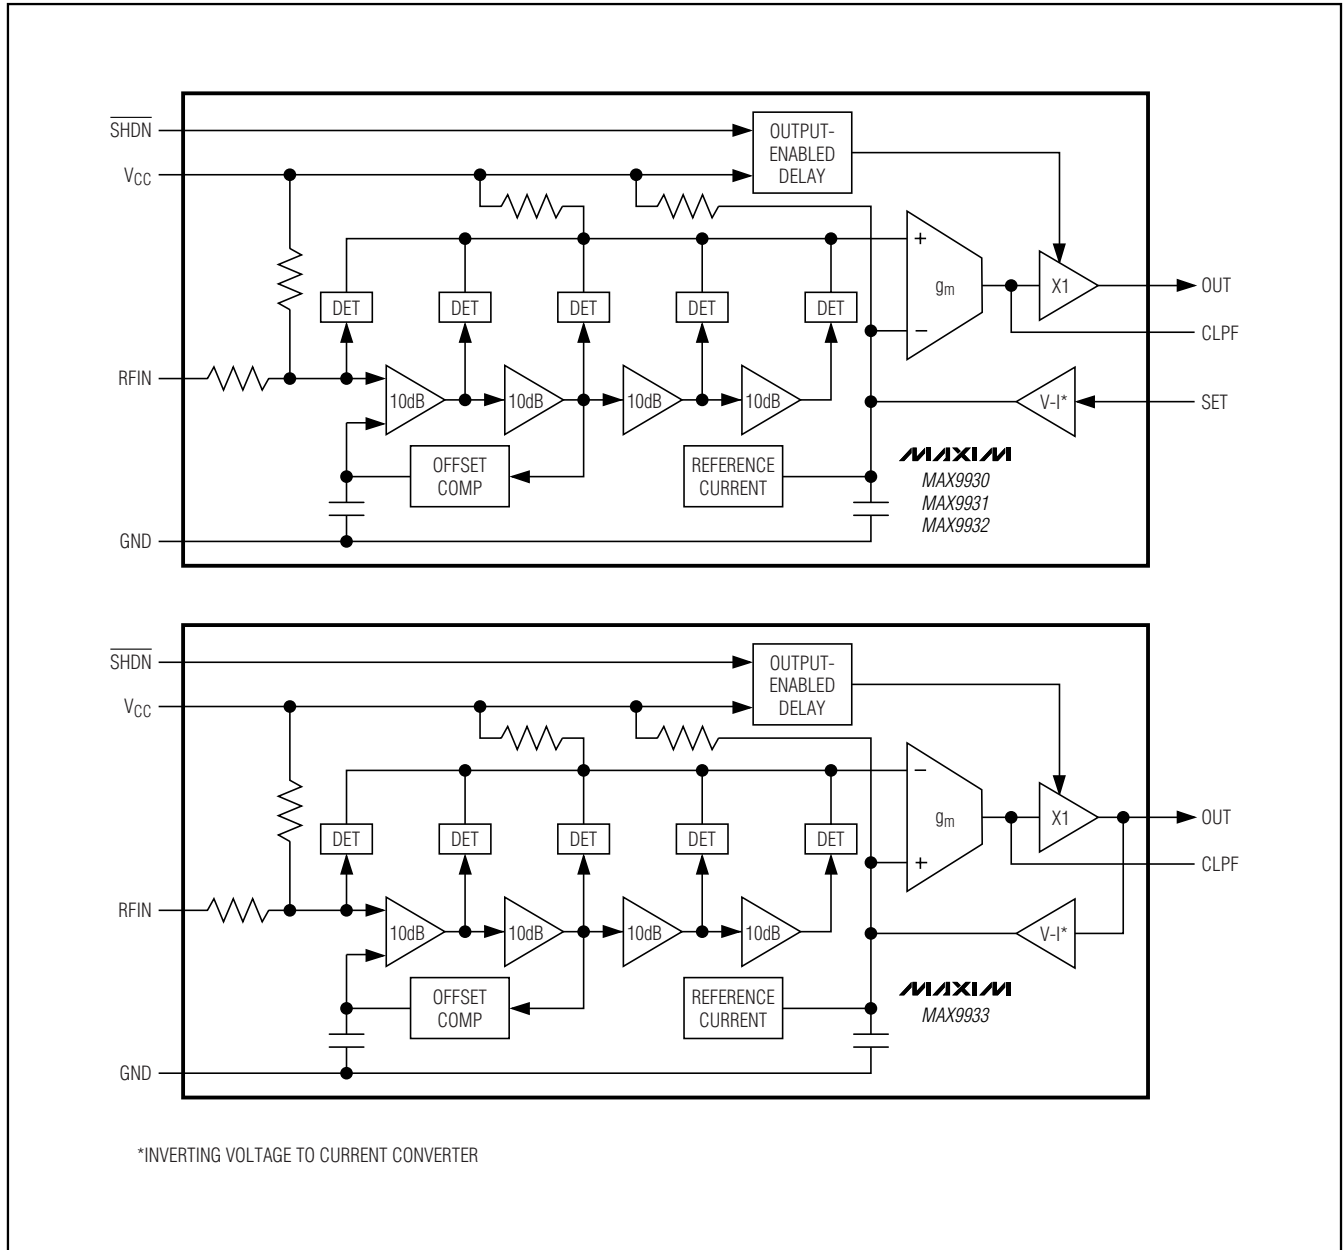

Figure 1. Functional Diagram
- Note 3:** Set-point slew rate is the rate at which the reference level voltage, applied to the inverting input of the g_m stage, responds to a voltage step at the SET pin (see Figure 1).
put stage of each amplifier is applied to a full-wave rectifier (detector). A detector stage also precedes the first gain stage. In total, five detectors, each separated by 10dB, comprise the log amp strip. Figure 1 shows the functional diagram of the log amps.